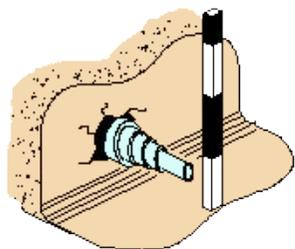

Figure 56 - Impact mole head appearing in receiving pit
- The operative should signal to the mole operator controlling the operation to reduce the air supply to a gentle hammer action. Do not allow anyone to stand in the reception pit when the impact mole is entering the reception pit Figure 56.